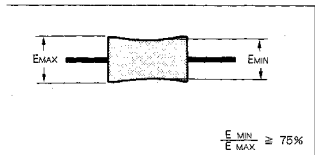

Fig. 7-81.
- 3) Confirm that the RF waveform amplitude minimum value (E_{MIN}) at this time is more than 75% of maximum value (E_{MAX}). (See Fig. 7-81.)